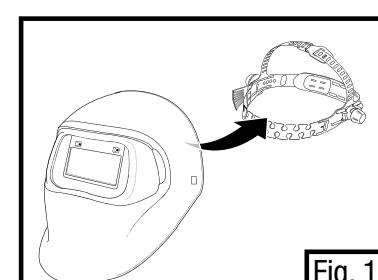

Fig. 1
- Follow Figs. 1-4, to properly remove and replace the 3M™ Speedglas™ 100 headgear with the 3M™ Speedglas™ 100 Hardhat Adapter (part number 07-0014-00NR) as shown in Figs. 1 and 2.